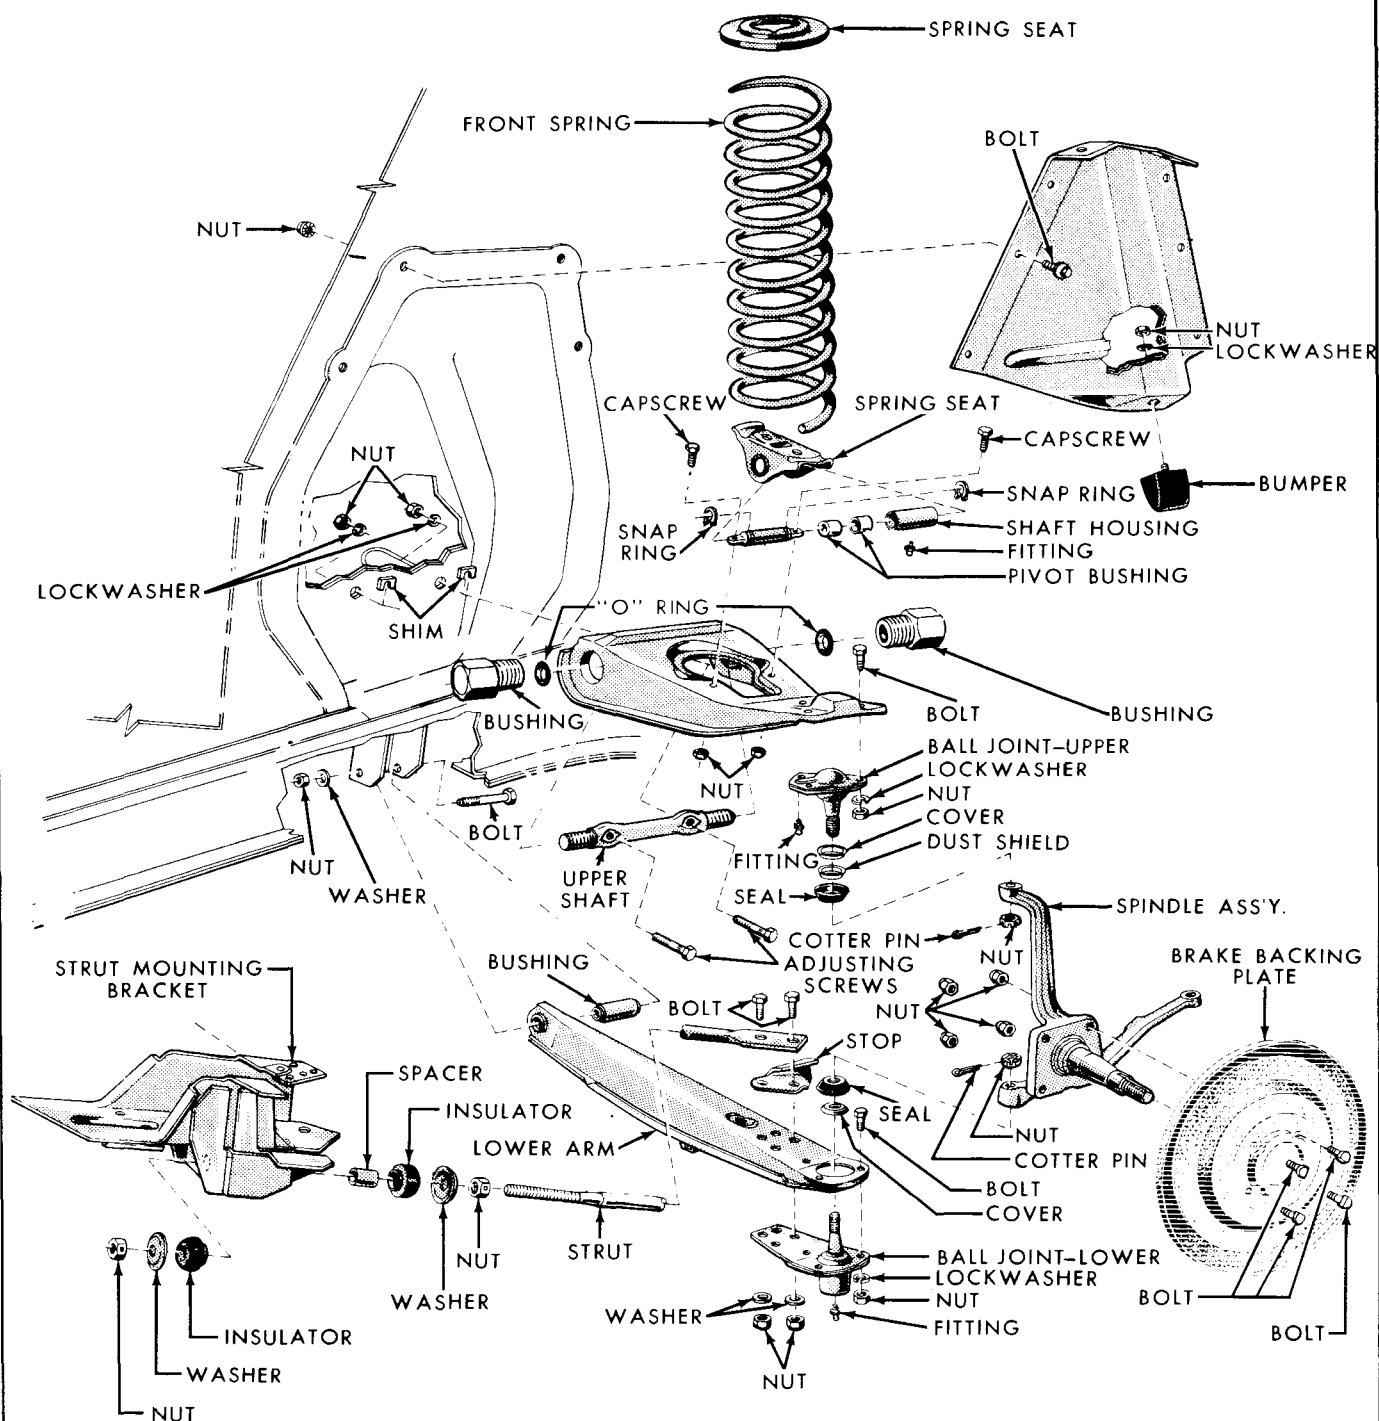

Fig. 3-11—Front Suspension—Disassembled—(61CM-406)
An illustration of the front suspension assembly is shown in figure 3-11 for reference during disassembly and assembly procedures.
3. Refer to figure 3-11. Remove the brake backing plate from the spindle. Support the plate to prevent damage to the brake hose.
- Refer to figure 3-11. Remove the nut from the upper stud and lift the stud out of the spindle.
- Refer to figure 3-11. Remove the ball joint from the arm. If the ball joint is riveted to the arm, drill a $\frac{1}{8}$ inch pilot hole completely through each rivet, and then drill off the rivet head through the pilot hole with a $\frac{3}{8}$ inch drill. Drive all rivets out of the holes.
- Refer to figure 3-11. Position the upper arm on the underbody mounting bracket, and install but do not tighten the nuts and lockwashers on the two inner